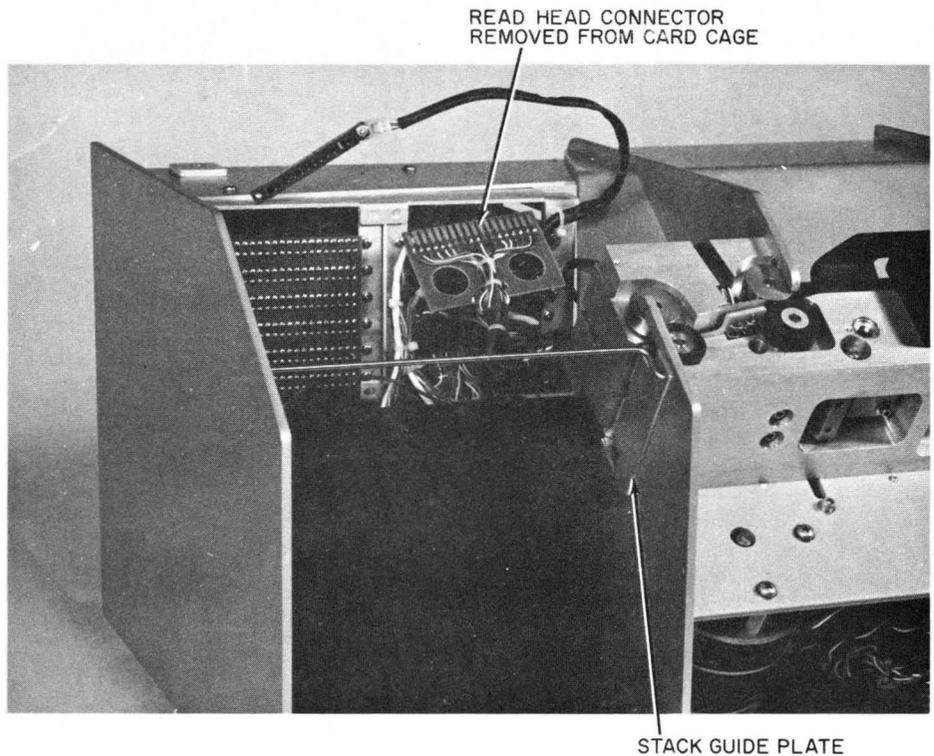

Figure 34. Top View Casting Assemblies
10. Remove read head connector from card cage, figure 34.
5. Unsolder wires from pins J, K and L on the read head connector, figure 34.
2. Using a flat blade knife, remove stack guide plate, figure 34.
2. Install new read head and replace read head connector in card cage when installing main mounting plate, figure 34.